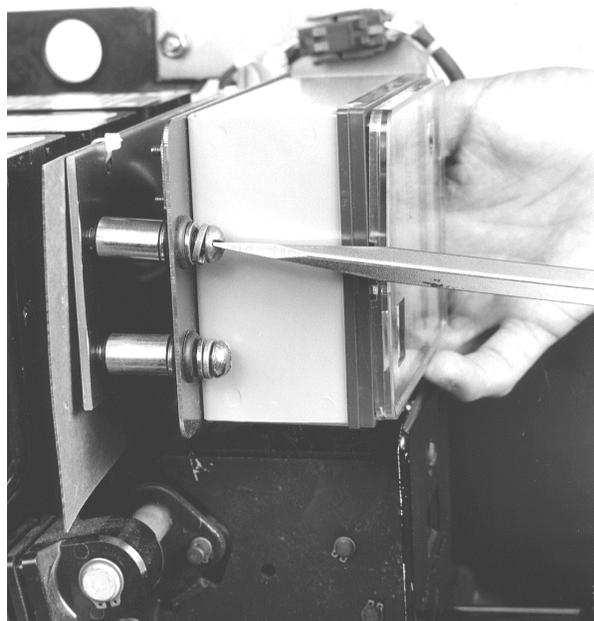

Figure 19. Mounting the trip unit on the breaker.
4. Place the trip unit and mounting plate in position on the support bracket mounted to the breaker. Secure with the screws in the mounting plate into the tapped holes in the bracket, as shown in Figure 19.